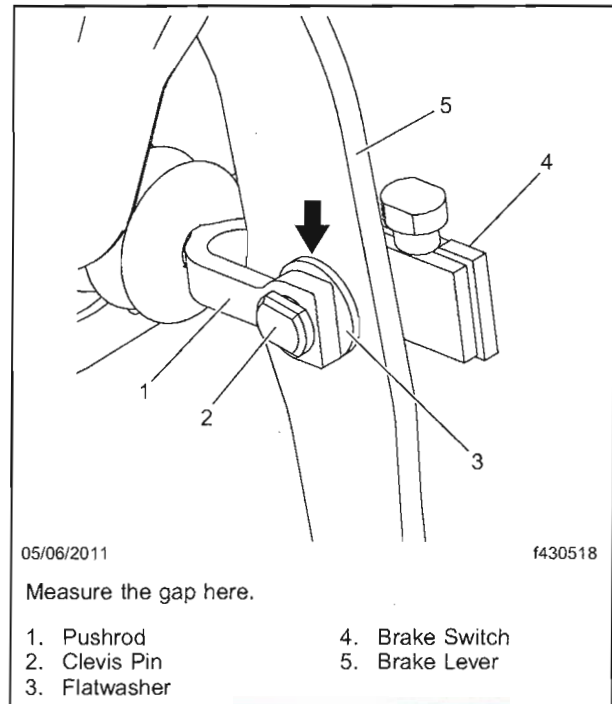

Fig. 2, Standard Brake Pedal Assembly
4. Install the new clevis pin, flatwashers, brake switch, and hitch pin from the kit. Make certain one flatwasher is between the pushrod and the brake lever as shown in **Fig. 2**.
5. Using a feeler gauge, measure the space between the flatwasher and the brake pedal as shown in **Fig. 2**.